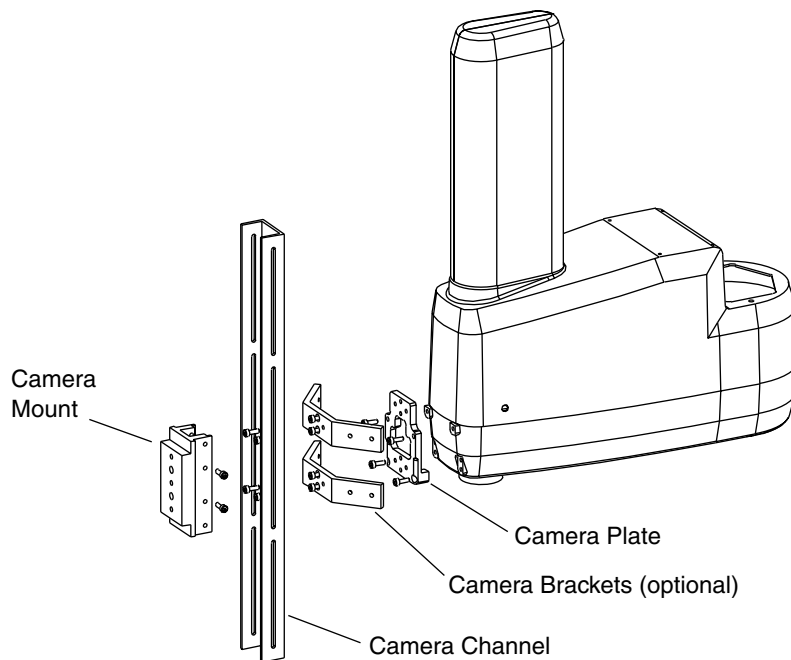

Figure 6-12. Mounting a Camera on the Robot
1. Install the camera plate to the outer link with four M5 X 12 mm screws (see Figure 6-12 on page 83 as you perform this procedure).